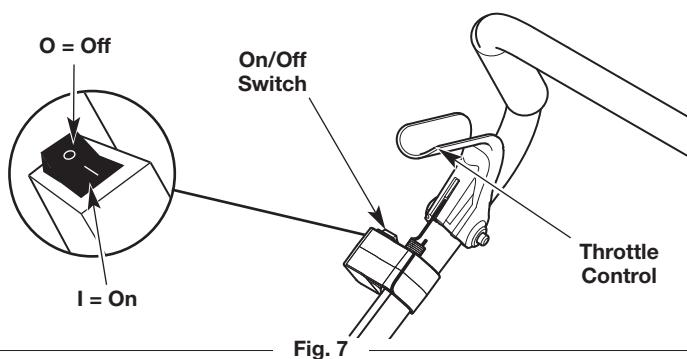

Fig. 7
**NOTE:** There is no need to turn the unit on. The On/Off switch is in the **On (I)** position at all times (Fig. 7).
4. Squeeze and hold the throttle control (Fig. 7).
2. Press and hold the On/Off switch in the **Off (O)** position until the engine comes to a complete stop (Fig. 7).